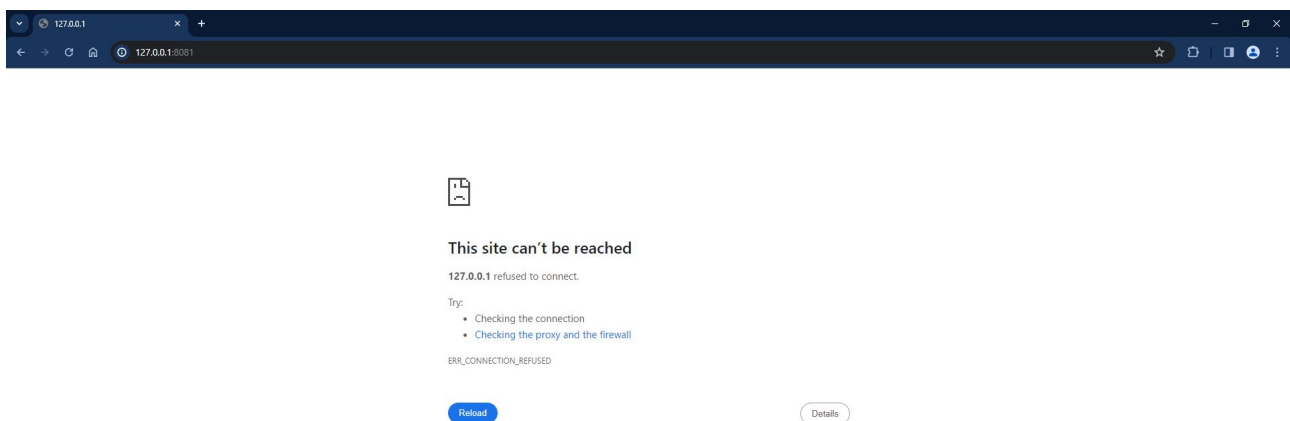
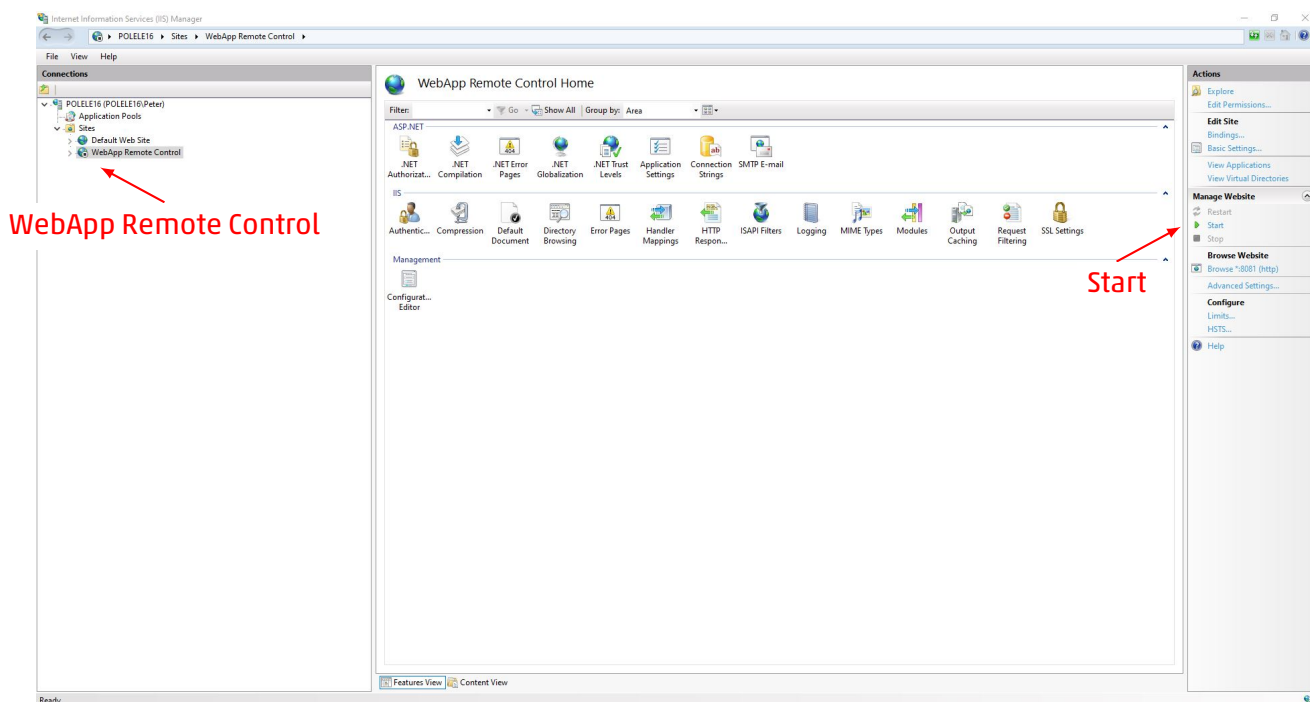

Figure 8.10: Web Page Not Reachable
Figure 8.11: Internet Information Services (IIS)
- If an error message appears as shown in Figure 8.10, open the Internet Information Services (IIS) as shown in Figure 8.11. Open the "Sites" folder, select "WebApp Remote Control," and click the "Start" command in the "Manage Website" menu.